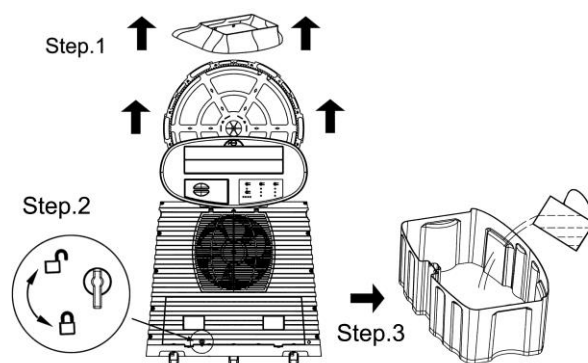

Figure.2
- 2) Unlock the tank, and slide it out (Figure.2).